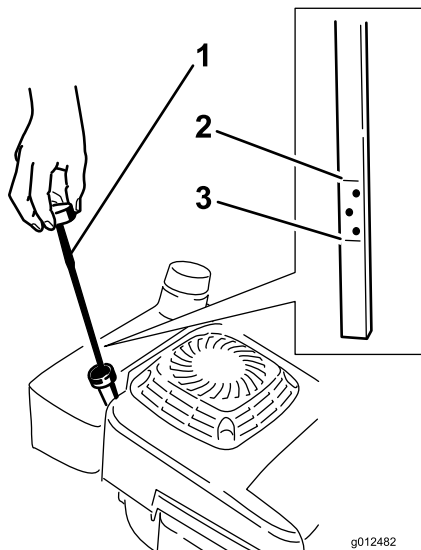

Figure 15
Before each use, ensure that the oil level is between the Add and Full marks on the dipstick (Figure 15).
2. Clean around the dipstick (Figure 15).
6. Remove the dipstick and read the oil level on the dipstick (Figure 15).